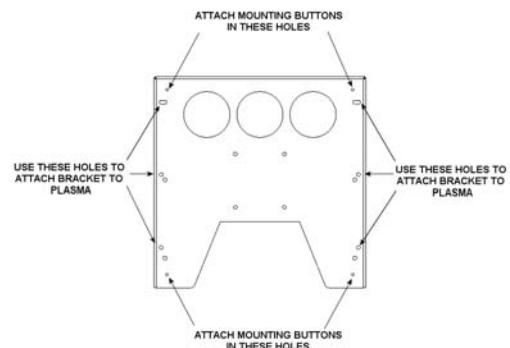

Figure 2
1. Using a 10-24 button head cap screw inserted from back side of bracket, secure mounting button, with chamfered hole of mounting button (larger surface) facing bracket, to bracket outside corners (four places) resulting in a 14" square pattern (see Figure 2, Figure 3, and Figure 4).
2. Place Nylon spacer over mounting holes (see Figure 2 & Figure 5).